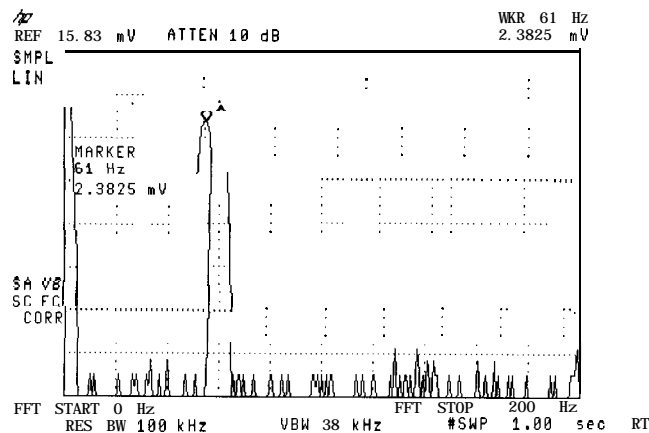

Figure 4-1. FFT Annotation
11. Press **[MEAS/USER]** and **% AM ON OFF** so that **ON** is underlined. The spectrum analyzer reads out the percent AM of the largest modulation frequency. An arrow indicates the signal being measured (see Figure 4-1). This measurement does not include all of the harmonics of the modulating signal.
7. Press **MEAS/USER** and **% AM ON OFF** so that ON is underlined. The spectrum analyzer reads out the percent AM of the largest modulation frequency. An arrow indicates the signal being measured (see Figure 4-1). This measurement does not include all of the harmonics of the modulating signal.